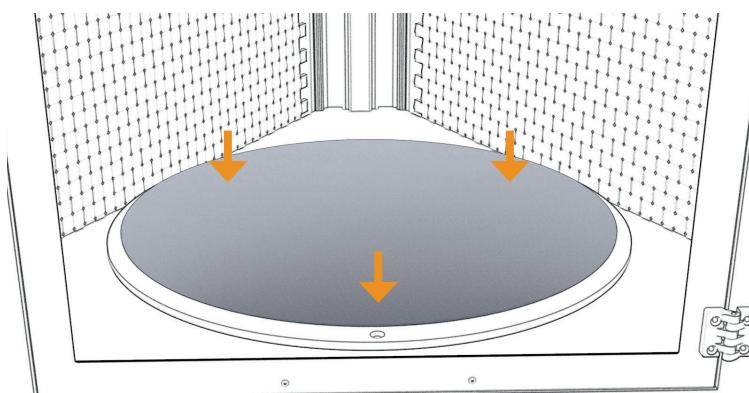

Fig. 8.12c - Position the removable printing plate
6. Help the positioning by applying light even pressure on the plate. (fig 8.12c)